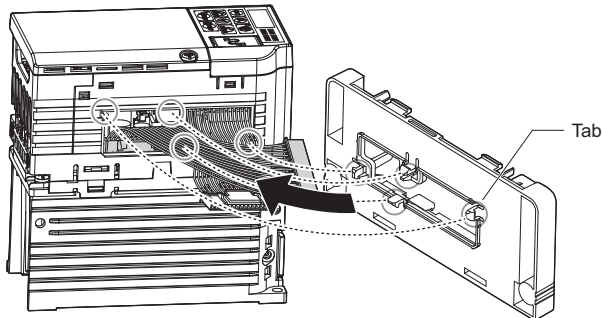

Figure 13 Connecting the Mounting Attachment (PS-V10S)
2. Align the four tabs on the mounting attachment with the inside edges of the cable access opening on the drive and gently press and click the mounting attachment into place as shown in **Figure 13**.